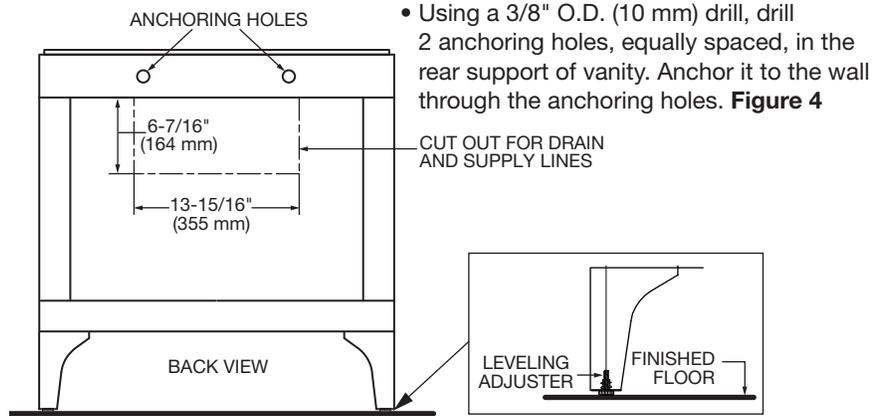

FIGURE 4
- Rough in supply lines and waste per rough in dimensions. **Figure 4**
- Move the vanity into place and level with the leveling adjusters on the bottom of the feet. The adjusters can be adjusted outward up to 3/4" (19 mm) but it is recommended not to exceed 1/2" (13 mm) if possible. **Figure 4**
- Using a 3/8" O.D. (10 mm) drill, drill 2 anchoring holes, equally spaced, in the rear support of vanity. Anchor it to the wall through the anchoring holes. **Figure 4**